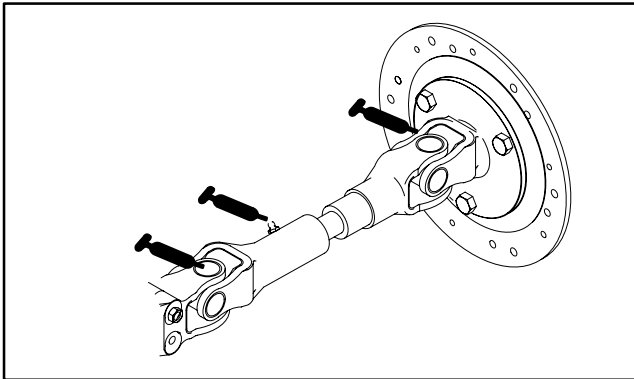
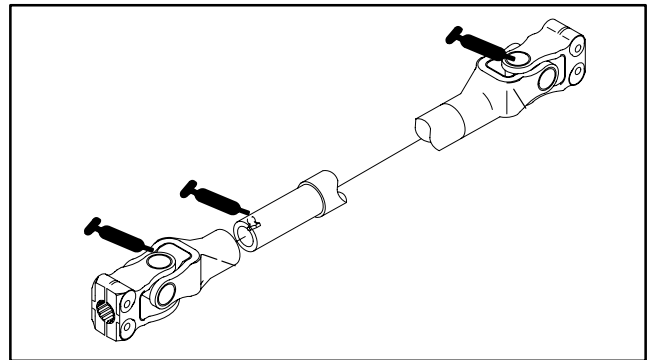

Figure 25
Figure 26
Intermediate Drive Shaft (3) (Fig. 25), 4WD Rear Drive Shaft (3) (Fig.26), Pedal Pivots (5) (In square tube under floor plate) (1) (Fig. 27) and Lift arm pivot (2) (Fig. 28).